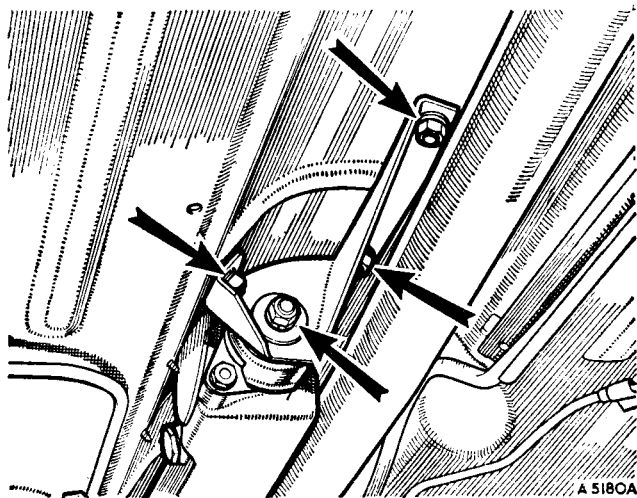

Fig. A.12
7. Remove the three bolts securing the rear extension mounting to the floor (Fig. A.12).